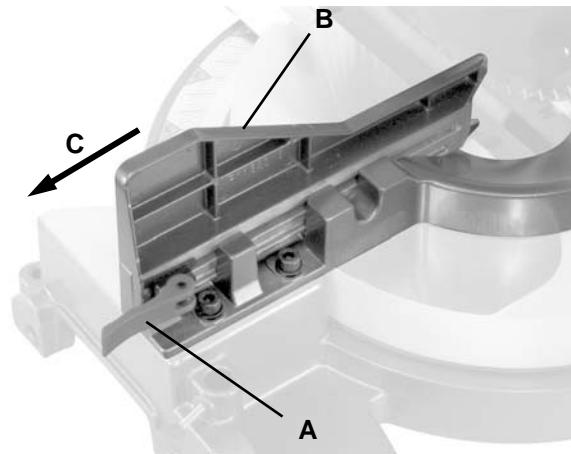

Figure 24
To adjust the sliding fence (refer to Figure 24):
1. Unlock the *fence cam locking lever* (A) (shown locked in Figure 24) by pushing it toward the rear of the machine.
2. Extend the *fence* (B) by sliding it out (C) to match the degree of the bevel cut. Lock the *fence cam locking lever* (A) as shown.
1. Unlock the *fence cam locking lever* (A, Fig. 24 shows the locked position).
2. Lock the sliding fence by push the cam-locking lever *in* as shown (A, Fig. 24)